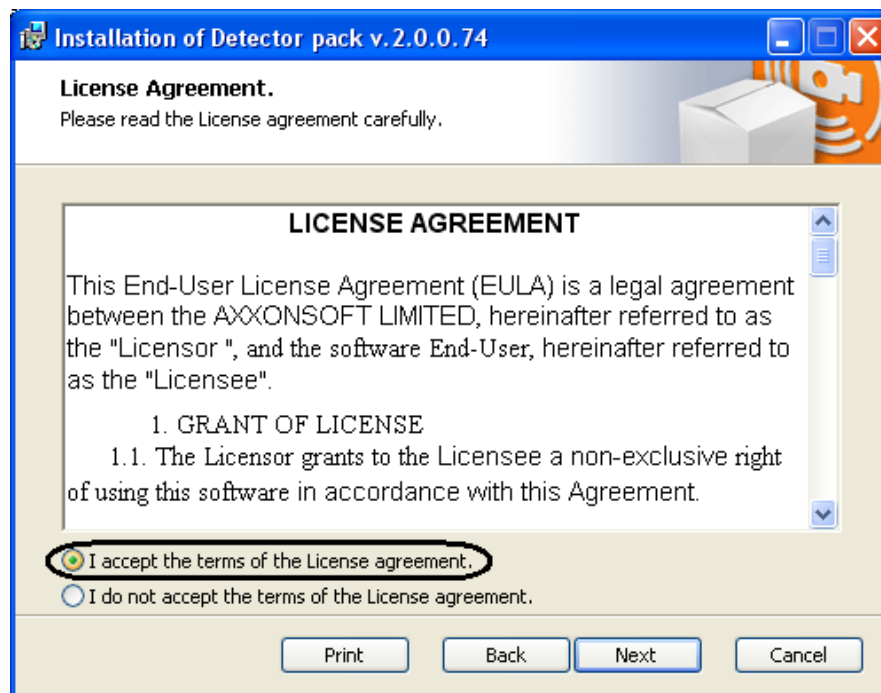

Fig. 5.2—4 License agreement window
4. After reading the license agreement, agree with the terms of the agreement by clicking on the check box stating **I accept the terms of the License agreement**, otherwise the installation of the software system will be discontinued (Fig. 5.2—4).